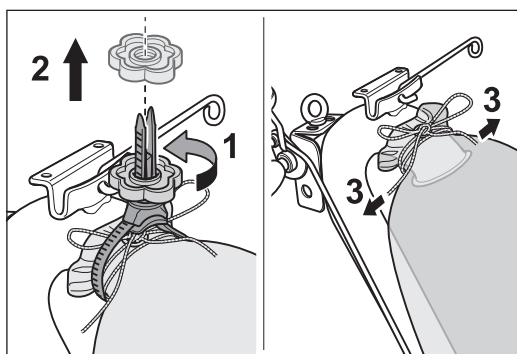

Fig. 43 Remove the MultiClip (1 and 2) and open the cord at the dust bag (3).
- 4 Remove the MultiClip (fig. 43, 1 and 2) and open the cord at the dust bag (fig. 43, 3).